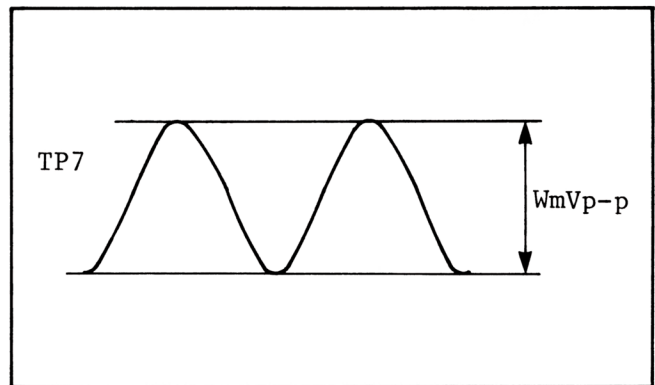

Fig. 2-5-20. I RECORDING CURRENT
10. Connect a jumper wire between TP6 on the SYSTEM CONTROL (I) P.C.B. (STUDIO VTR) and TP34 on the SERVO SYSTEM CONTROL P.C.B. (PORTABLE VTR).
18. Place the unit in the record mode. Then adjust VR9 (I CURR) until the amplitude level shown as "WmV" in Fig. 2-5-20 is equal to the signal generator level written down in step 15.